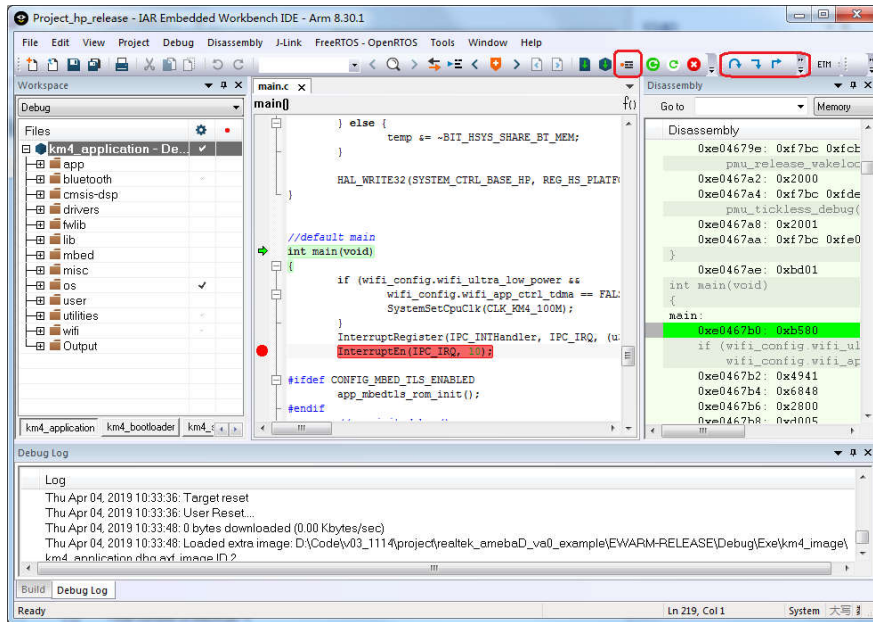

Fig 1-21 Toggle breakpoint
- (4) Toggles a breakpoint at the statement or instruction that contains or is located near the cursor in the source window. The “Toggle Breakpoint” button is on the debug toolbar, as Fig 1-21 shows.
- (5) You can trace code step by step with “Step Into”, or “Go” until triggering a breakpoint. These function buttons are available on toolbar.